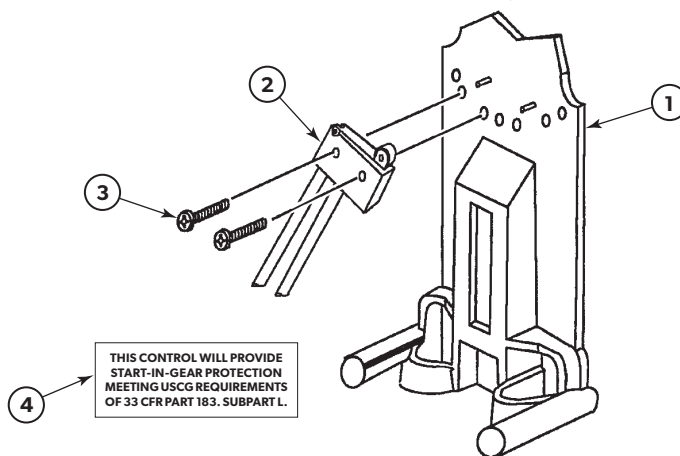
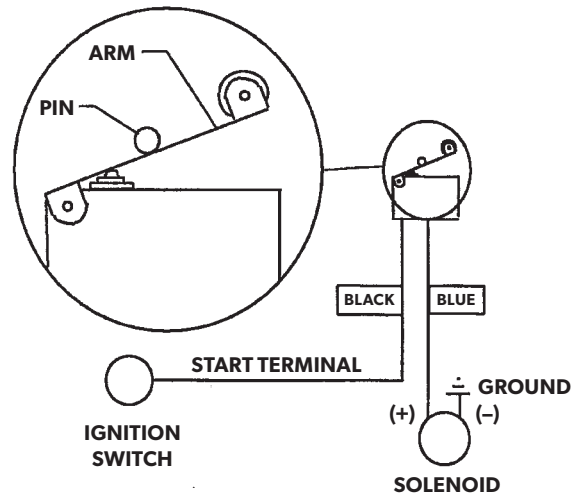

Figure 1.
Figure 2.
Place the switch (item 2) on the control (item 1) as shown in figure 1 so that the roller of the switch contacts the stamped metal cam of the control while the control is in the neutral position.
Mount the switch so that the arm is up against the pin as shown in figure 2.
Route the wires so they will not in any way come in contact with the cable or moving parts of the control. If necessary, the switch can be mounted on the right side (left side mounting shown in figure 1). Connect one wire of the switch to the 'start' terminal on the ignition switch and the other to the positive terminal of the starter solenoid (see figure 2 and warning).